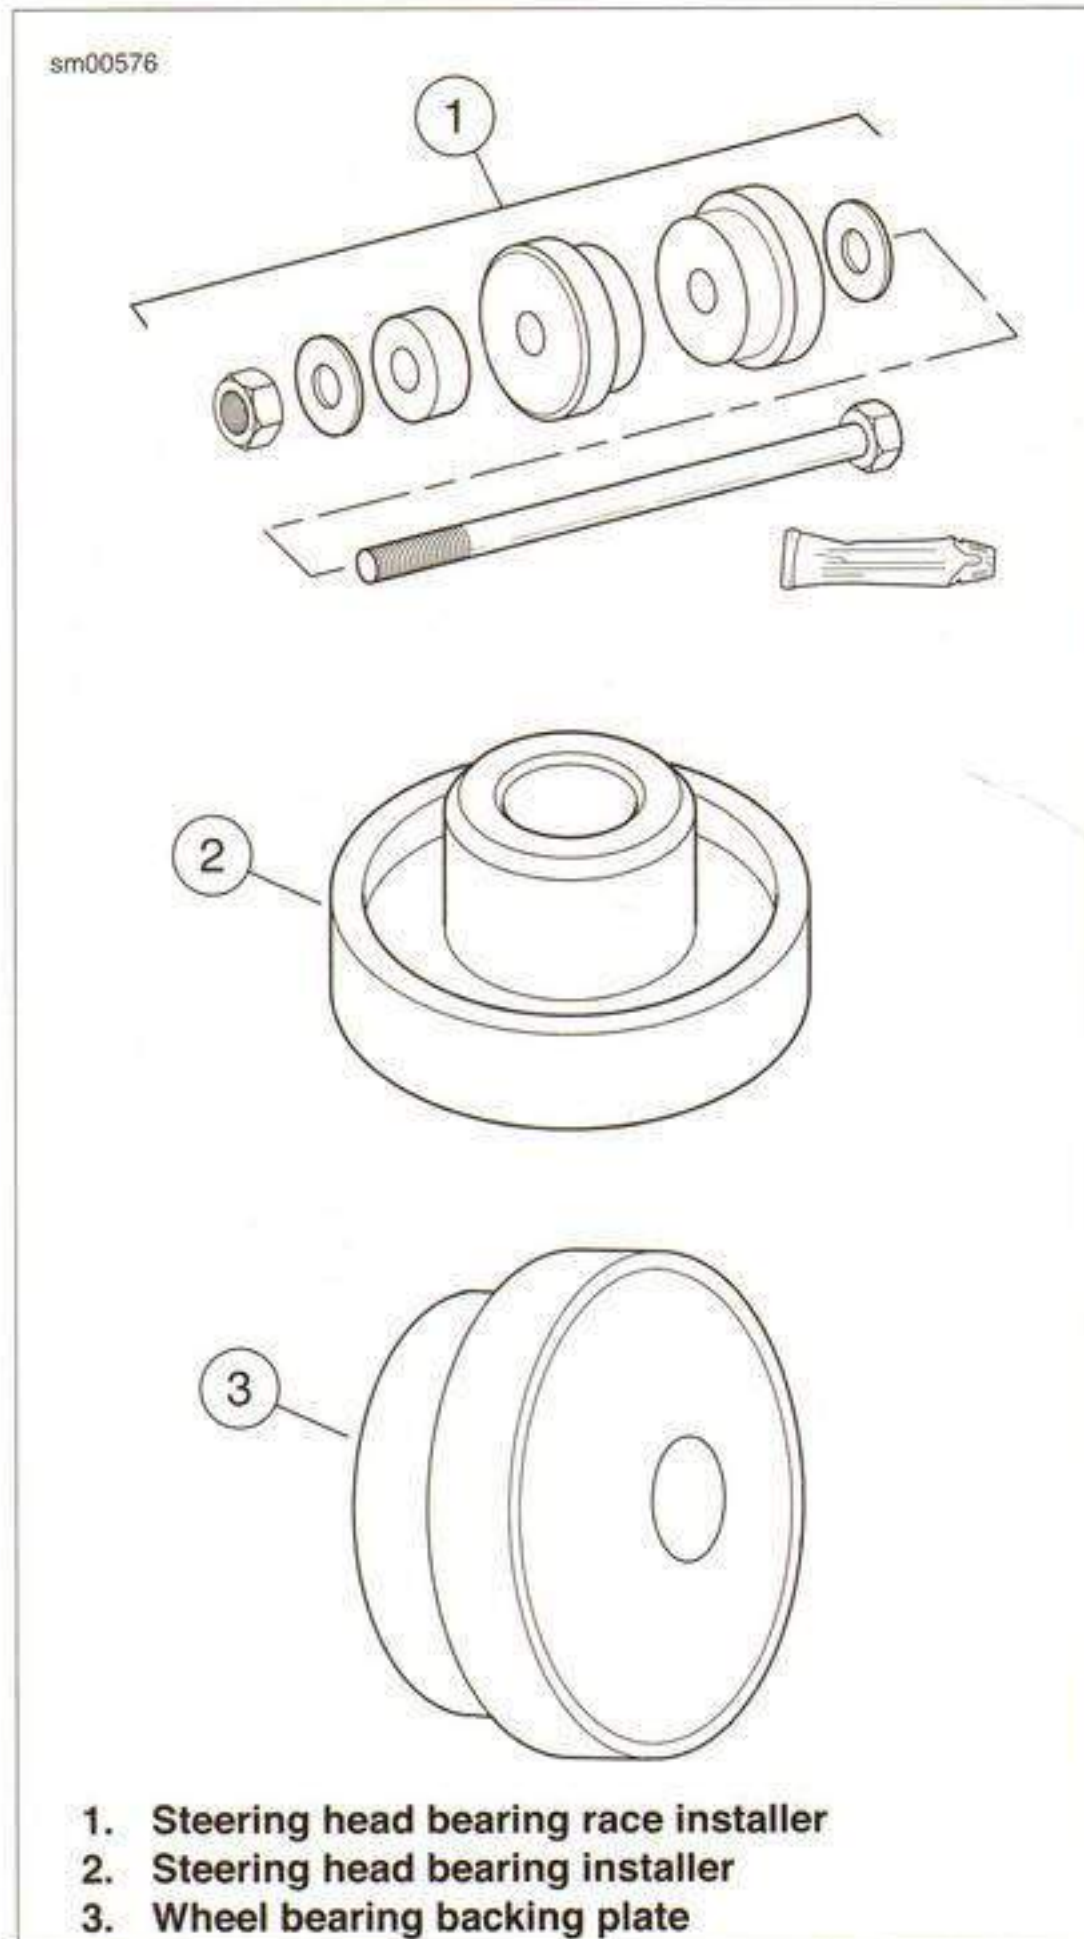

Figure 2-100. Steering Head Bearing Installation Tools
1. See Figure 2-100. Install **new** upper steering head bearing into the frame neck using STEERING HEAD BEARING RACE INSTALLER (Part No. HD-39302), the STEERING HEAD BEARING INSTALLER (Part No. B-45521) and BACKING PLATE (Part No. B-43993-12) from the wheel bearing installation kit.
- b. See Figure 2-100. Insert the steering head bearing installation tool into the upper bearing, with the shoulder into the bearing bore.